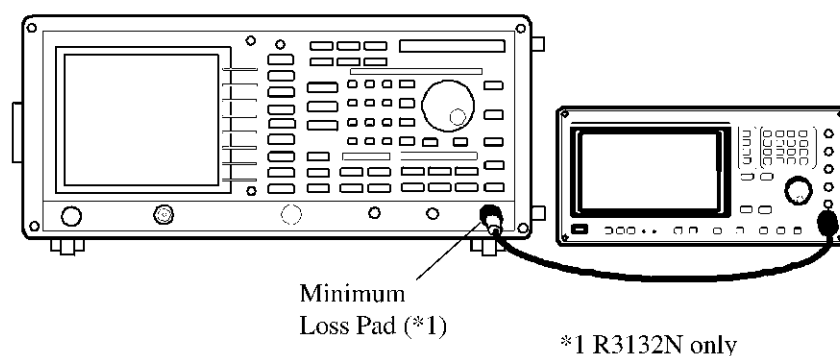

Figure 5-20 Setup of Sweep Time Accuracy Test
1. Connect the signal generator as shown in Figure 5-20.